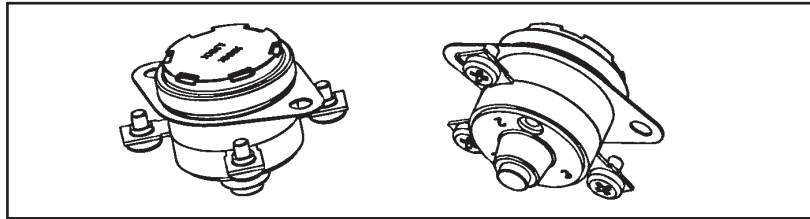

Figure 2 - New switch style
3. The new switch as shown in Figure 2 will use the same gasket , hardware and hardware torque as the original. However depending on the heater wiring, the connections may need to be adjusted to accommodate different length or geometry. Be sure to record and mark all wire positions prior to removing to ease reinstallation. *Never use an inline splice, always trace the wire to its source or nearest terminal connector and replace the entire wire using equivalent type and size wire and terminals.*